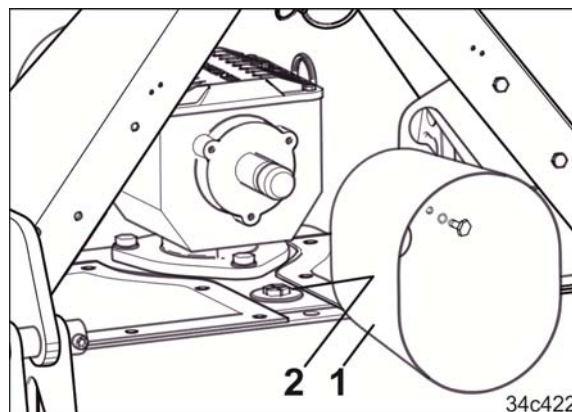

Fig. 180
2. Screw off the protective cap (Fig. 180/1).
3. Open the plug seals (Fig. 180/2).